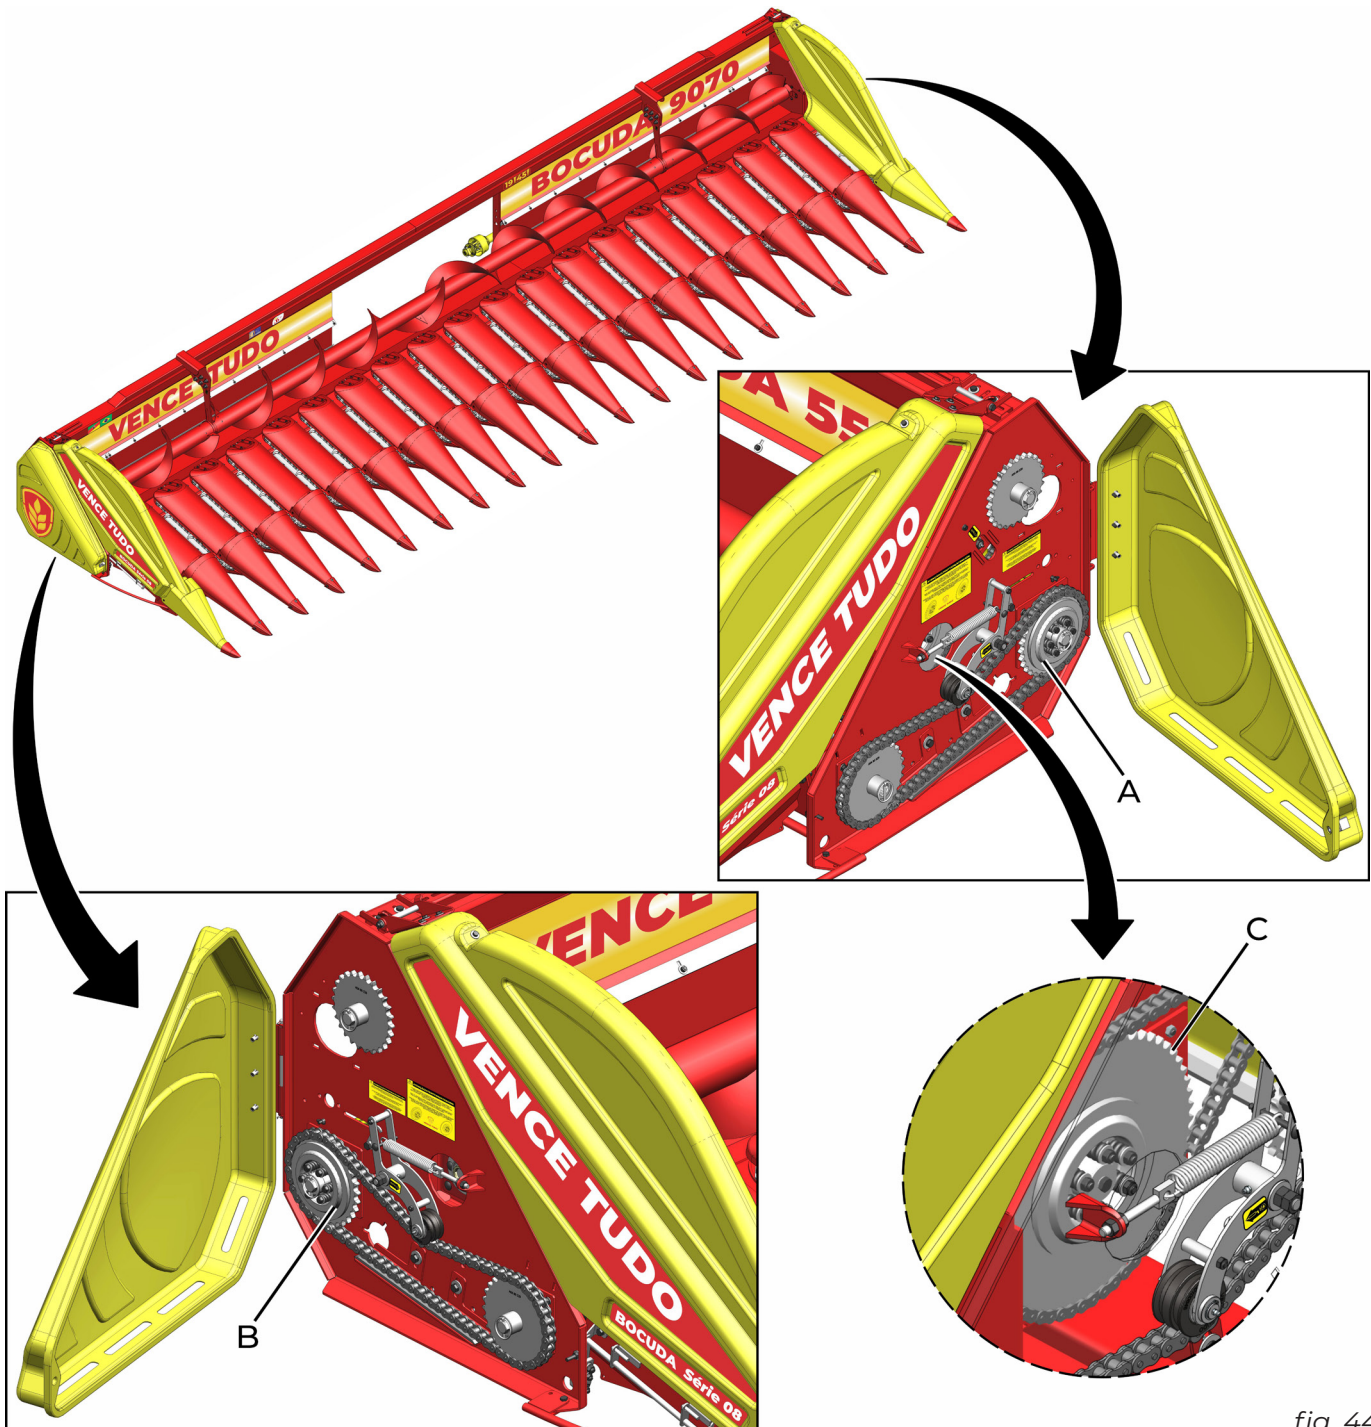

fig. 44
The VENCE TUDO CORN HEADER, BOCUDA SÉRIE 08, has a drive shaft safety system: the clutch. There are 3 clutches in all, one (A) (fig. 44) for the rows activated on the left side, another (B) for the rows activated by the right side, and another (C) for the auger.